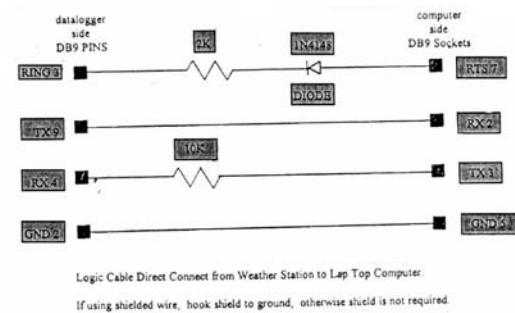
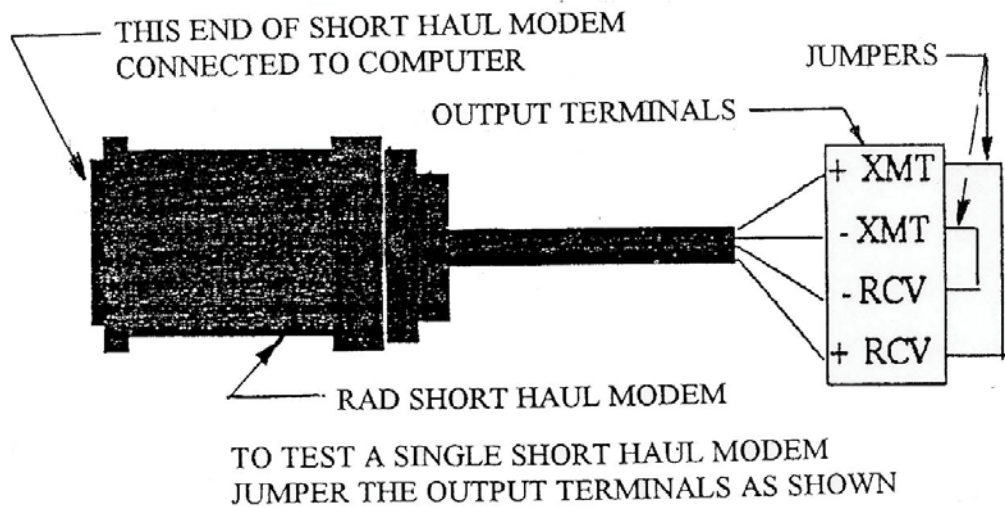

FIGURE 24 - CONFIGURATION OF SERIAL CABLE
FIGURE 25 - TEST OF SHORT HAUL MODEM
Connect the keyboard display to the Serial I/O connector on the back of the ET Enclosure behind the cable cover. Refer to FIGURE 24 below.
When a Laptop computer is being used to check the weather station it is necessary to use a Serial cable between the computer and the weather station, as configured in FIGURE 24 shown below.
- Connect the Laptop computer, using the serial cable as shown in FIGURE 25, to the Serial I/O connector on the back panel of the Enclosure - the same as shown for the Keyboard Display in FIGURE 24.
- Assuming you have connected the output terminals of the modem as shown in **FIGURE 25** below, what you type will be echoed back to the computer screen. Testing the short haul modem in this way will verify that it is working properly. If you do not see the characters, that you
- With the modem connected to the computer, jumper the output terminals of the RAD modem as shown in FIGURE 25.